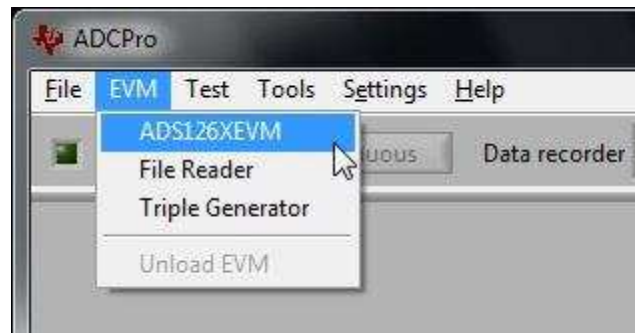

Figure 13. Loading the ADS1262EVM Plugin in ADCPro
1. Load the ADS126xEVM plugin by clicking *ADS126XEVM* from the *EVM* file menu shown in Figure 13. This step can be repeated to reload the plugin. The plugin may need to be reloaded in the case of a communication failure or if power is cycled on the EVM hardware.